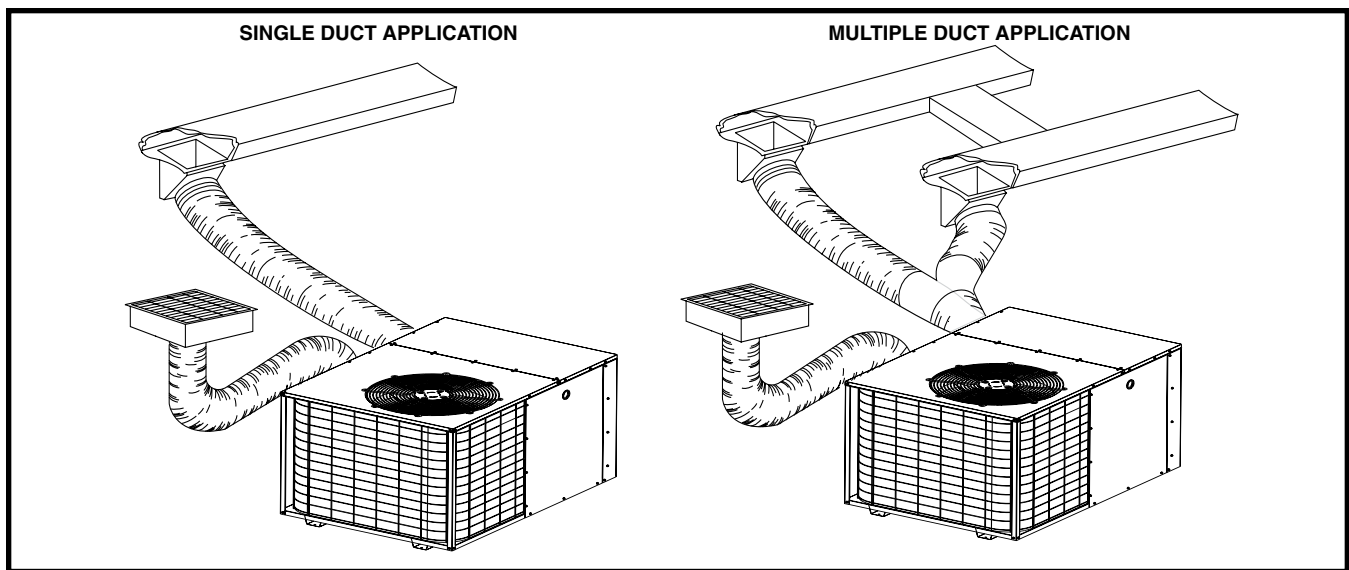

Figure 3. Typical Duct Applications
- The supply duct system (Figure 3, page 6), including the number and type of registers, will have much more effect on the performance of the system than any other factor. The duct must be sufficiently large to conduct an adequate amount of air to each register.